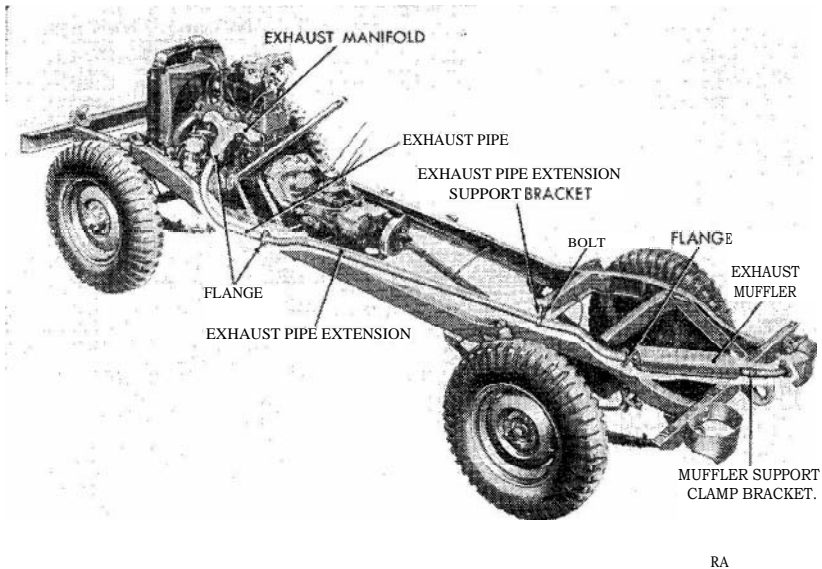
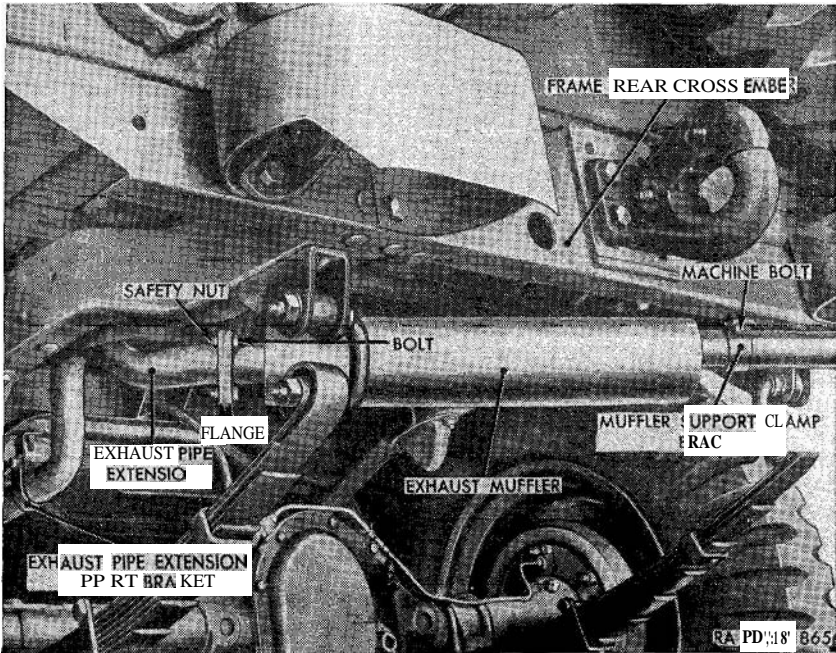

Figure 73. Exhaust system.
Figure 74. Exhaust muffler with bracket assembly—installed.
The exhaust system (fig. 73) includes the exhaust muffler, the exhaust pipe extension, and the exhaust pipe. The system is supported at three points—the exhaust pipe is secured to the exhaust manifold of the engine; the exhaust pipe extension is secured to the frame by a bracket and spacer; and the muffler is secured to the frame by a muffler support clamp bracket around the tail pipe of the muffler assembly.
(fig. 74)
- (1) Remove the three nuts and bolts securing the exhaust pipe extension to the exhaust pipe (fig. 73).
- (2) Remove the three nuts and bolts securing the exhaust pipe extension to the exhaust muffler (fig. 74).
- (3) Loosen the bolt securing the muffler support clamp bracket to the frame rear cross member and slide the muffler back about one inch.
- (4) While supporting the exhaust pipe extension, remove the nut, washer, spacer, and bolt securing the exhaust pipe extension support bracket to the frame cross member.
- (5) Separate the front flange of the exhaust pipe extension from the rear flange of the exhaust pipe, and remove exhaust pipe extension with bracket. Separate and discard gasket from both flanges.
- (1) Clean the flange gasket surfaces. Loosen the nut and bolt in the clamp at the exhaust pipe extension support bracket (fig. 74). Place the exhaust pipe extension in approximate position under the vehicle with the offset end toward the exhaust muffler (fig. 73).
- (2) Insert a  $\frac{9}{16} \times 1\frac{1}{2}$  machine bolt through the bracket (fig. 74) hole and slip the exhaust pipe extension spacer over the bolt. Raise the exhaust pipe extension with bracket into position with the bolt end inserted into the frame cross member hole. Place a  $1\frac{1}{32}$  ID  $\times$   $\frac{1}{16}$  OD washer over the bolt and screw a  $2\frac{5}{16}$ -inch nut on the threads enough to support the exhaust pipe extension weight.
- (3) Place a new gasket on the front flange of the exhaust pipe extension (fig. 73) and insert three  $\frac{7}{16} \times 1$  bolts through the exhaust pipe flange, gasket, and exhaust pipe extension flange. Start three  $\frac{5}{16}$ -inch nuts on the three bolts, but do not tighten.
- (4) Place a new gasket on the flange of the exhaust muffler (fig. 74). Pull the muffler forward and insert three  $\frac{5}{16} \times 1$  bolts through the muffler flange, gaskets, and rear flange of the exhaust pipe extension. Start three  $\frac{5}{16}$ -inch nuts on the bolts, but do not tighten.
- (5) Tighten the bolts and nuts securing the exhaust pipe extension to the exhaust pipe. Tighten the bolts and nuts securing the exhaust pipe extension to the exhaust muffler (fig. 73). Tighten the bolt securing the exhaust pipe extension support bracket to the frame cross member. Tighten the bolt and nut in the support bracket clamp. Tighten the bolt securing the muffler support clamp bracket (fig. 74) to the frame rear cross member.
- (6) Start engine and check all exhaust connections for leaks.
(fig. 73)